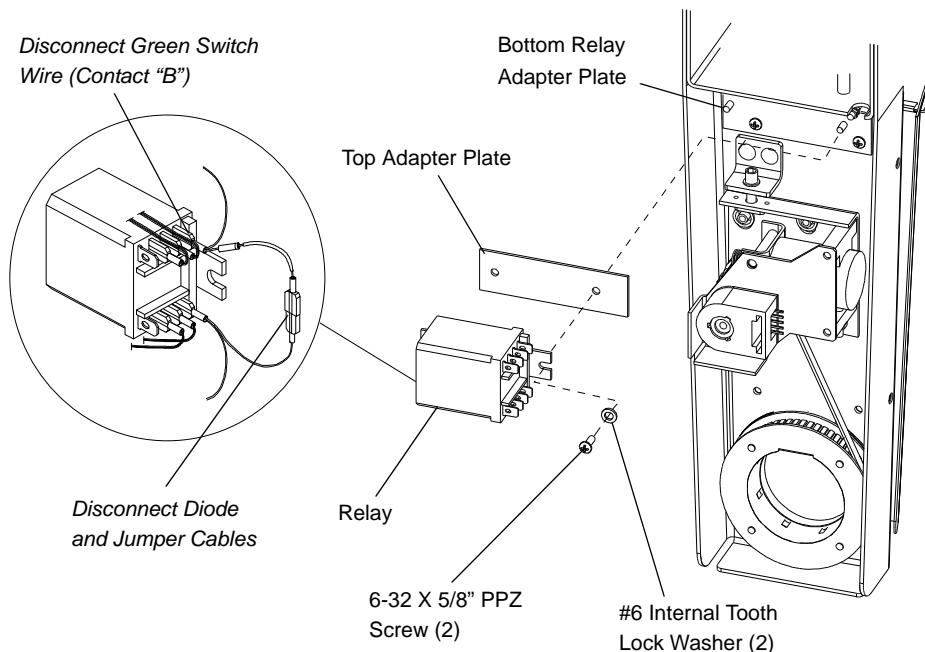

Figure 2-28: Removing Relay to Access Cables
- 1) At relay, using #2 Phillips screwdriver, remove two 6-32 X 5/8" PPZ screws and two #6 lock washers securing relay and top relay adapter plate to bottom relay adapter plate, and remove relay and top plate. **Figure 2-28**.